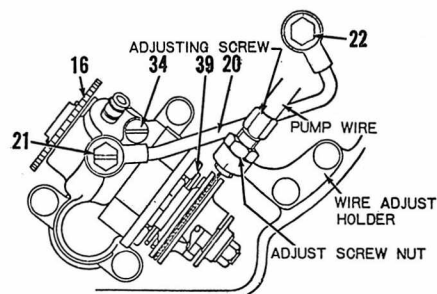

Fig. Y1-5—System bleeder screw is shown at 34. Refer to Fig. Y1-7 for legend.
If the "Autolube" system is drained or the pump unit is renewed, the air should be bled from the system by removing screw (34—Fig. Y1-5) and turning starter plate (16) until oil runs freely from the bleed hole, then reinstall bleed screw.